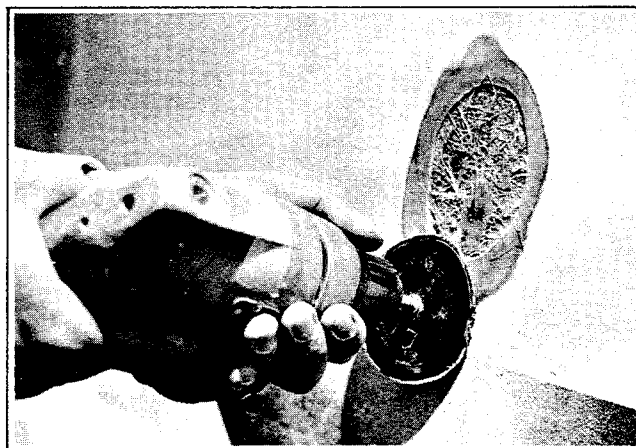

Figure 2-45. Rough Sanding Outside Surface
8. After the patch is cured, remove the cardboard from the outside of the hole and rough sand outside surface, feathering the edge of the hole. See Figure 2-45.